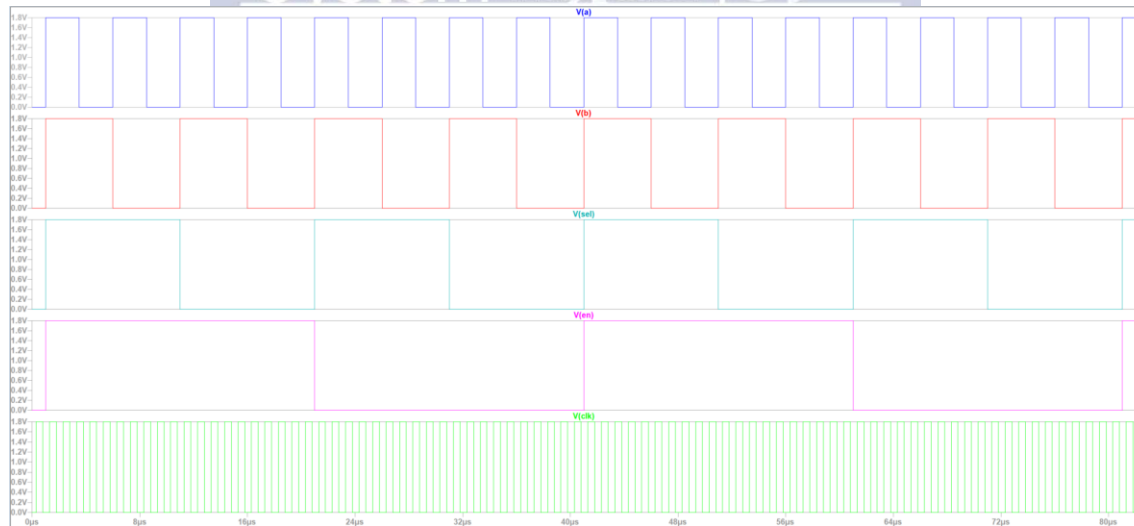

Fig. 3 Input signals
6. Input signal must follow **fig.3 input signal** with **A period=5us tdelay=1us and rise fall time =0.1ns**, do not modify the input signal, or you will fail the demo.